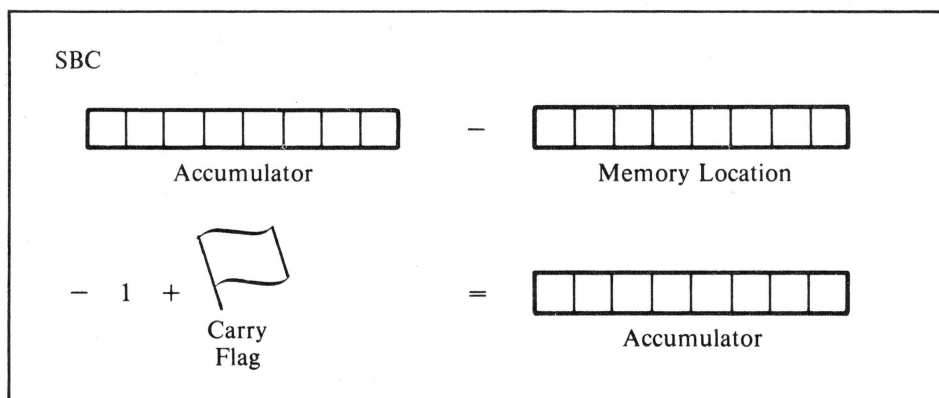

Figure 9-10. Subtract memory, Carry flag from accumulator
- **SBC** — Subtracts the contents of a specified memory location from the value contained in the accumulator, then subtracts 1 from that; adds the value of the Carry flag to the result, putting the entire calculation back into the accumulator (see Figure 9-10).